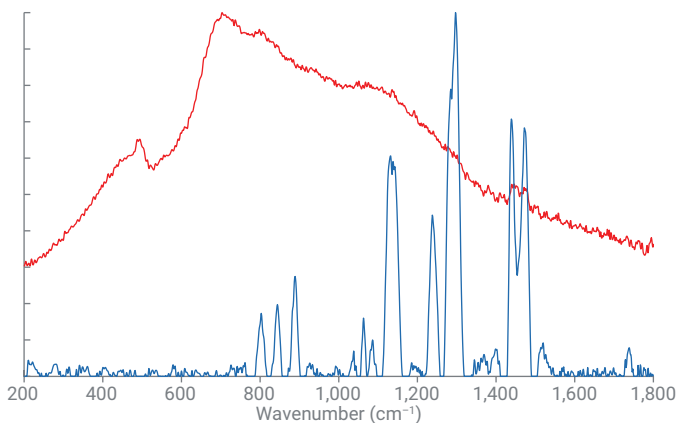

Figure 1. Raman spectra through amber glass at 830 nm: Conventional Raman (red) and using the Agilent RapID system (blue).
The Agilent RapID Raman system uses spatially offset Raman spectroscopy (SORS) technology to verify the identity (ID) of raw materials through unopened opaque packaging, but glass containers can also benefit. Fluorescence from amber glass is intense, making the Raman spectrum noisy (Figure 1). This means that 100 % confidence of a positive ID may be impossible using conventional instruments, even at longer excitation wavelengths.